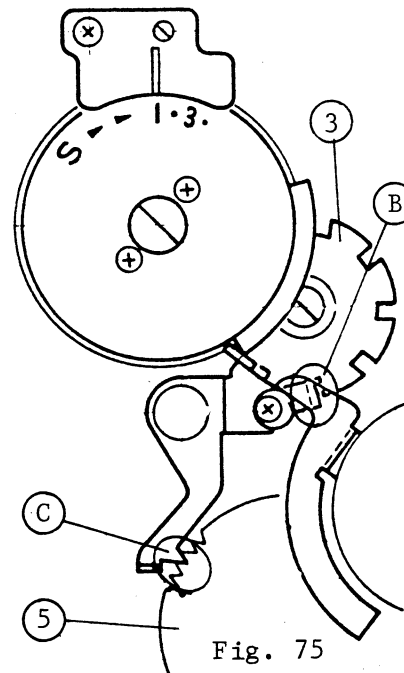

Fig. 75
- 2) When the film counter reaches to No. 1, the (A) Protrusion passes over. (B) end of the SLS15842 Stop lever gets into (3) Film counter dividing device and the other end (C) pawl gets into between teeth of the F.clutch wheel as shown in Fig. 75. At this time the SLS1474T1 Clutch is detached from the SLS14841 Ratchet gear so that film transport is stopped.